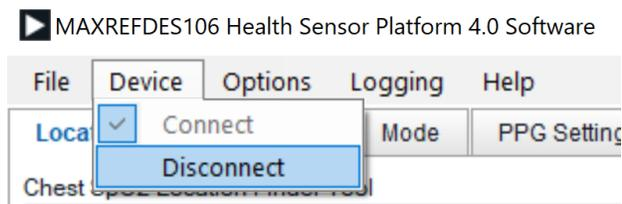

Figure 69. Disconnecting HSP4 from GUI
1. Logging data to flash memory must be done through the push button on the MAXREFDES106#. Register settings can still be set using the GUI. However, before flash logging, the patch must be disconnected from the GUI. This can be done by selecting **Device** and then clicking **Disconnect** (Figure 69).